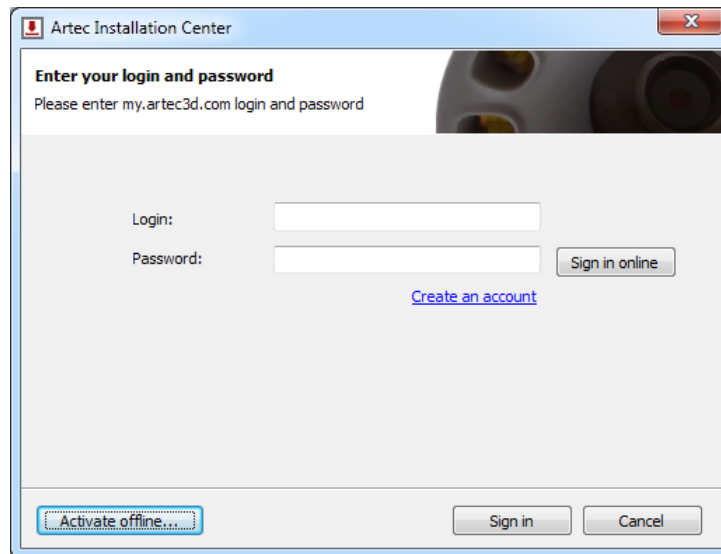

Figure 4.14.: Artec Installation Center authentication dialog
2. During installation the login/password dialog will be displayed as Figure 4.14. shows. Click *Activate offline*